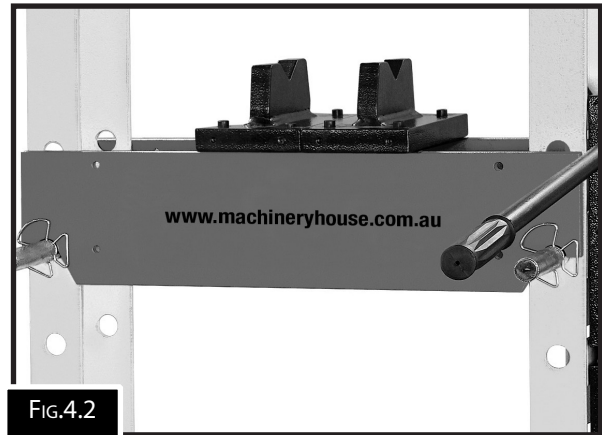

FIG.4.2
1. Place the workpiece on the bed. It must be completely stable and supported by packing or shims where required. Steel pressing plates are supplied, (Fig.4.2) which locate on the bed. Place the workpiece on a combination of these to give it stability.